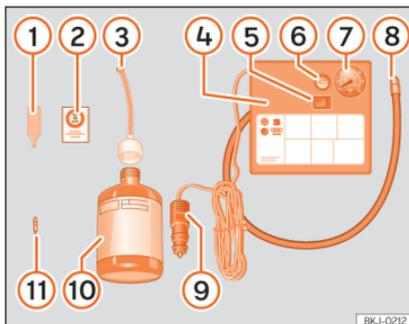

Fig. 39 Standard representation: anti-puncture kit contents.
The anti-puncture kit is located underneath the floor covering in the luggage compartment. It includes the following components » **Fig. 39**:
- Unscrew the tyre valve cap and insert. Use the » **Fig. 39** ① tool to remove the insert. Place it on a clean surface.
- Shake the tyre sealant bottle vigorously » **Fig. 39** ⑩.
- Screw the inflator tube » **Fig. 39** ③ into the sealant bottle. The bottle's seal will break automatically.
- Remove the lid from the filling tube » **Fig. 39** ③ and screw the open end of the tube into the tyre valve.
- Place the insert back into the tyre valve using the tool » **Fig. 39** ①.
- Screw the compressor tyre inflator tube » **Fig. 39** ⑧ into the tyre valve.
- Check that the air bleed screw is closed » **Fig. 39** ⑥.
- Insert the connector » **Fig. 39** ⑨ into the vehicle's 12-volt socket » **page 152**.
- Turn the air compressor on with the ON/OFF switch » **Fig. 39** ⑤.
- Attach the sticker »» Fig. 39 ② to the instrument cluster, within the driver's visual field.
Screw the inflator tube »» Fig. 39 ⑤ again and check the pressure on the gauge ⑥.